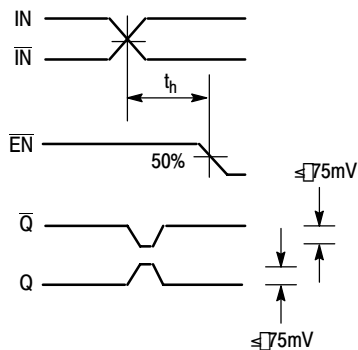

Figure 4. Hold Time
18. The hold time is the minimum time that \overline{EN} must remain asserted after a negative going IN or a positive going \overline{IN} to prevent an output response greater than $\pm 75\text{ mV}$ to that IN/ \overline{IN} transition (Figure 4).